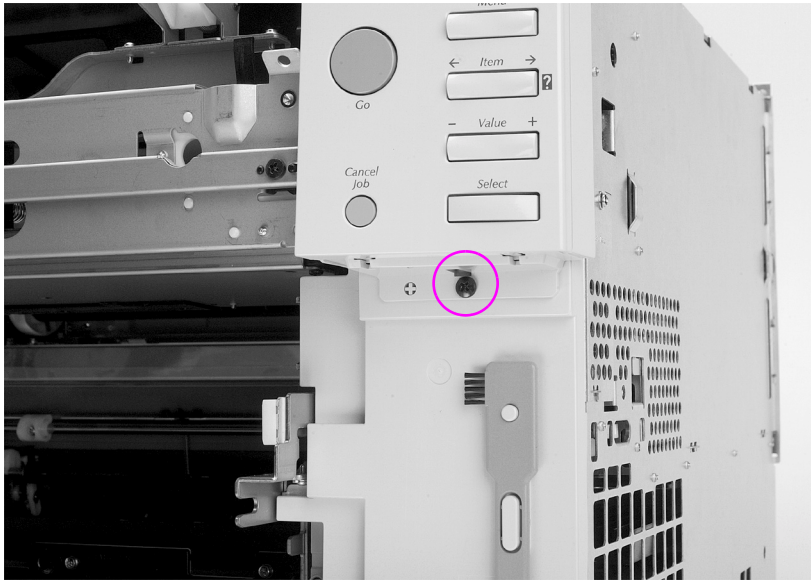

Figure 6-11 Control panel removal and replacement
- 3 Remove the black self-tapping screw as shown in Figure 6-11.